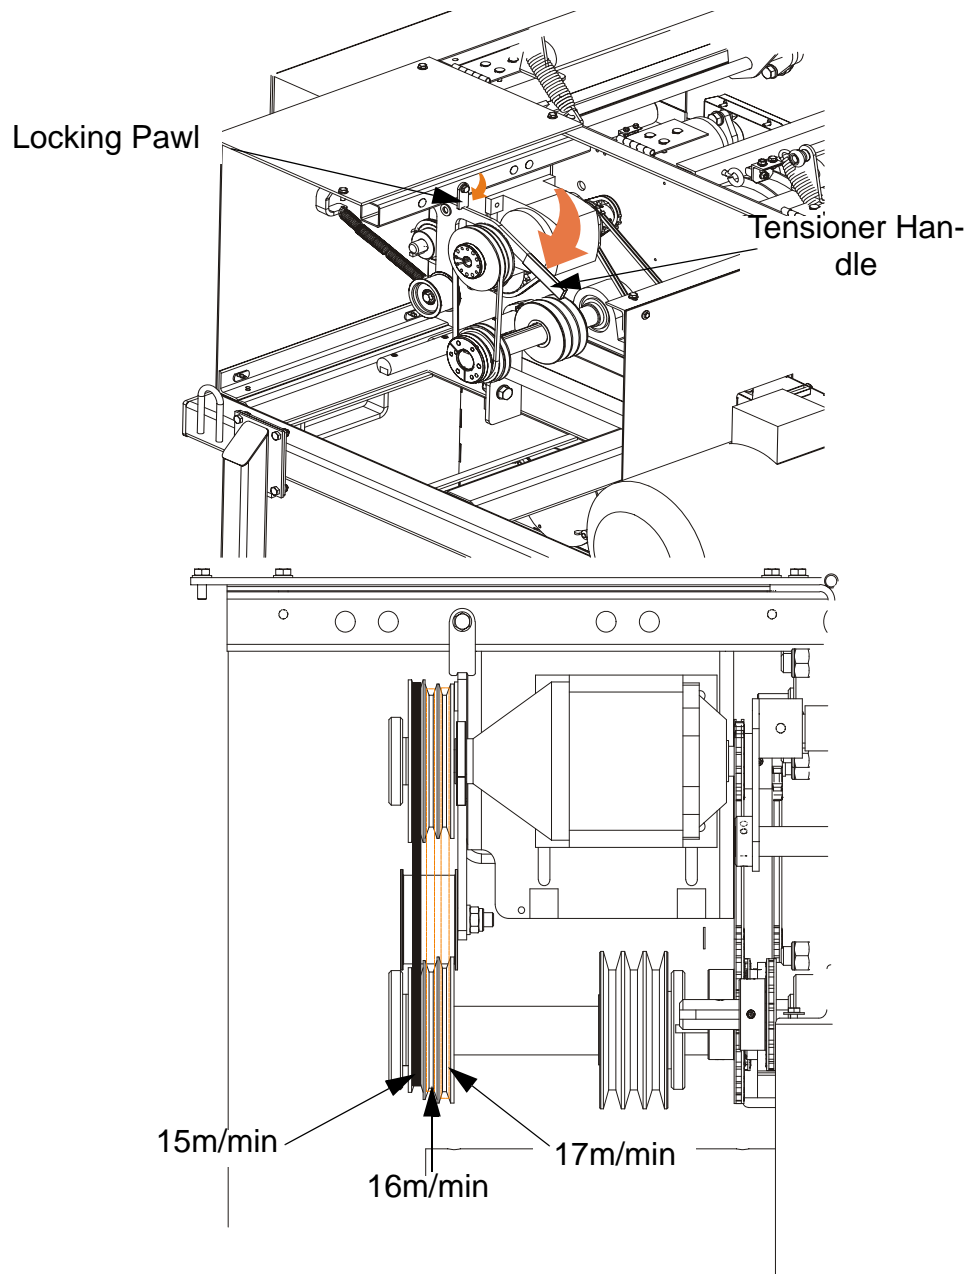

FIG. 4-4
**See Figure 4-4.** To change the board feed speed: